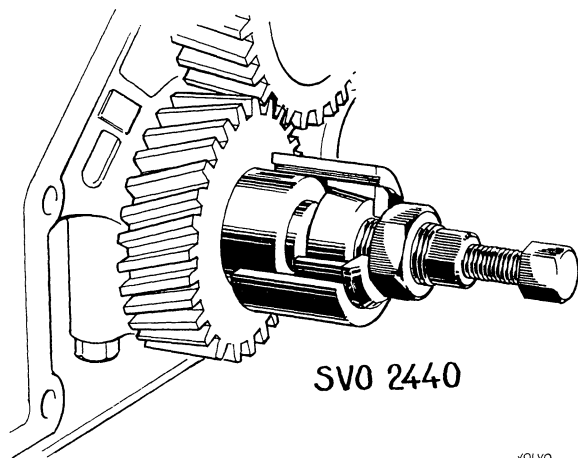

Fig. 2-37. Removing hub on crankshaft
3. Remove the hub from the crankshaft with puller SVO 2440. See Fig. 2-37.